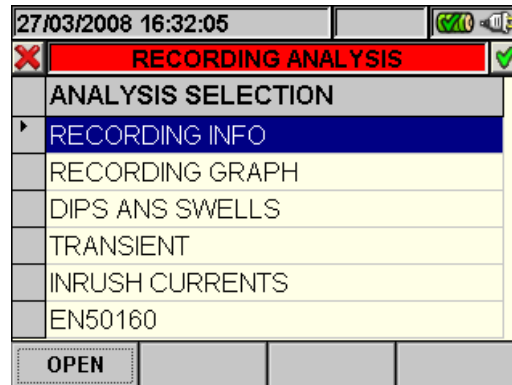

Fig. 96: Recording analysis (Reg-type data)
2. Press the **ESC** key (or the smart icon ) to exit the function and go back to the "Recording analysis" page (Fig. 96).
- The **ESC** key (or smart icon ) to exit the function and go back to the “Recording analysis” page (Fig. 96).